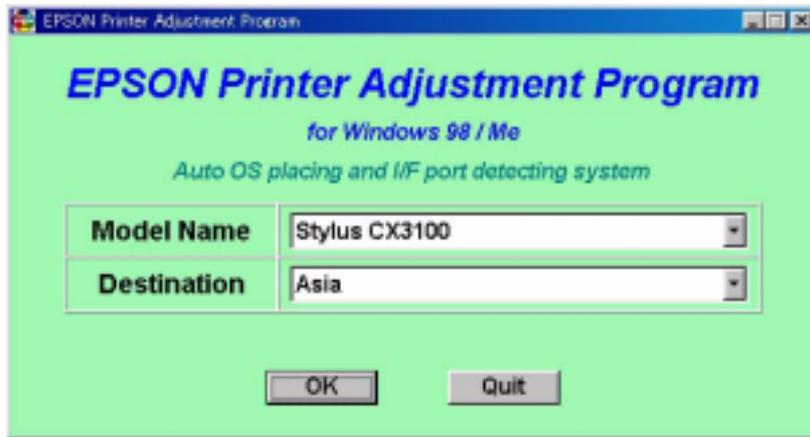

Figure 5-1. Model Name Port Number Selection
1. When the Adjustment Program is started, the screen as shown in Figure 5-1 is displayed. Select the Model Name.